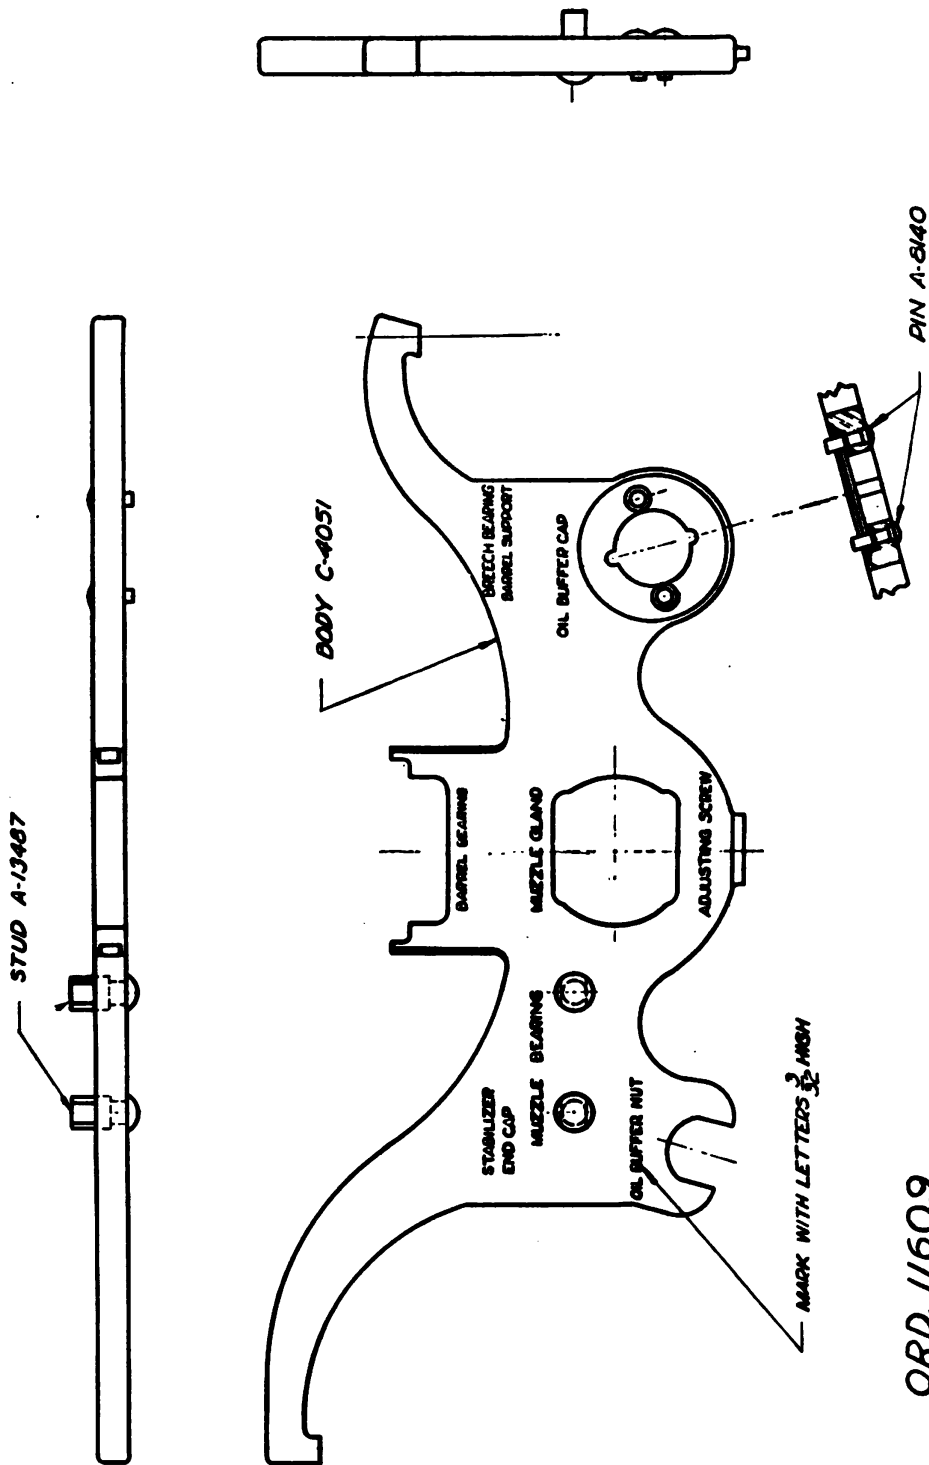

FIGURE 14.—Wrench, combination, M2.
j. Wrench, combination, M2.—This is a special combination tool (fig. 14) for disassembling, assembling, and making adjustments of the gun. Each opening and projection is marked to show its purpose.